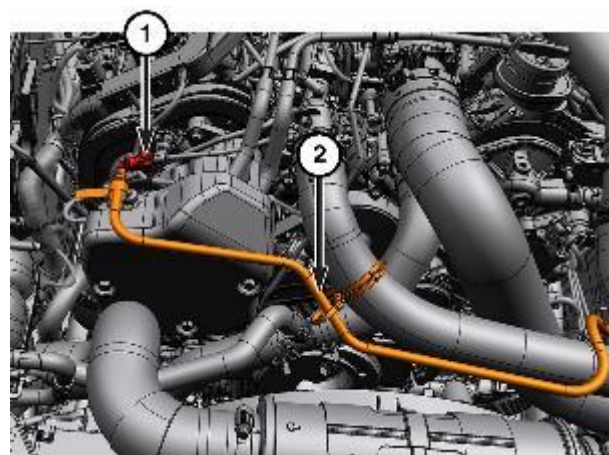

Figure 37 - Vacuum Line
6. Disconnect the quick-connect fitting (1) and set the vacuum line (2) aside (Figure 37).